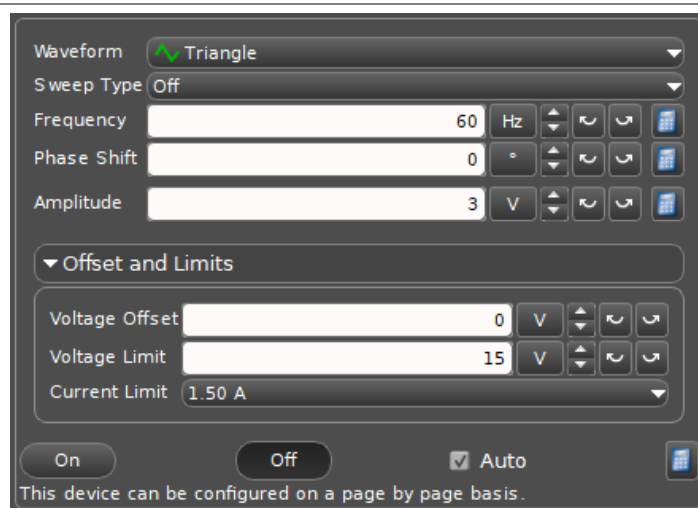

Figure 11.1
4. Set up the Signal Generator to output a triangle wave with a frequency of **60 Hz** and an amplitude of **3 V**. Be sure to check the "Auto" box to make the program automatically start outputting the signal when you begin recording data. When finished, your settings should match those shown in Figure 11.1.